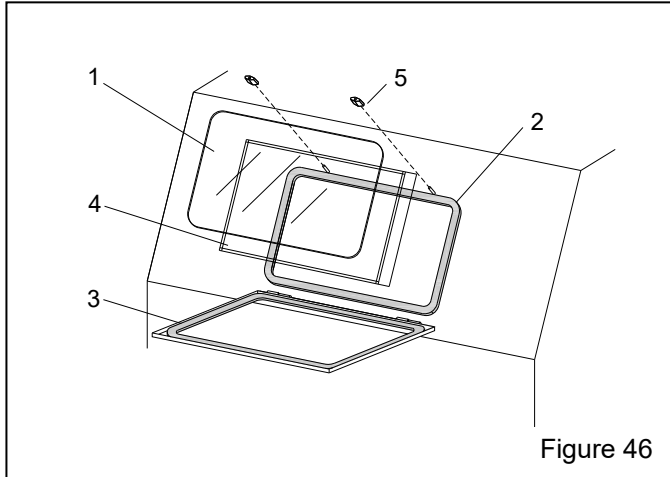

Figure 46
**9.5 View Window Assembly – Figure 46**